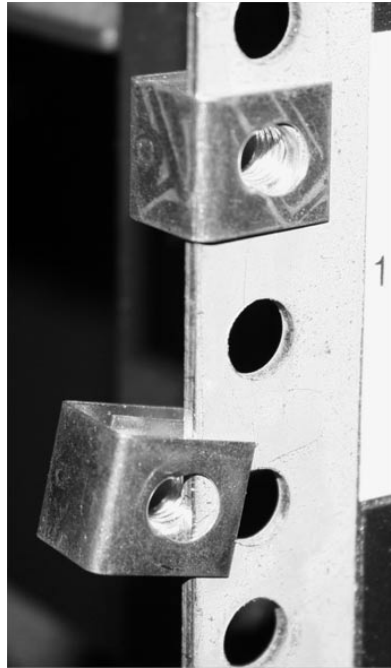

Figure 22. Positioning the clips
2. Position the four “C” clips in the rack’s mounting bar, as shown in Figure 22 on page 41.